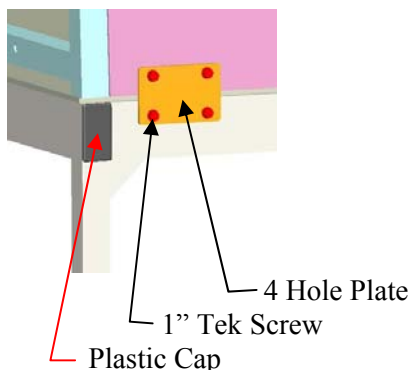
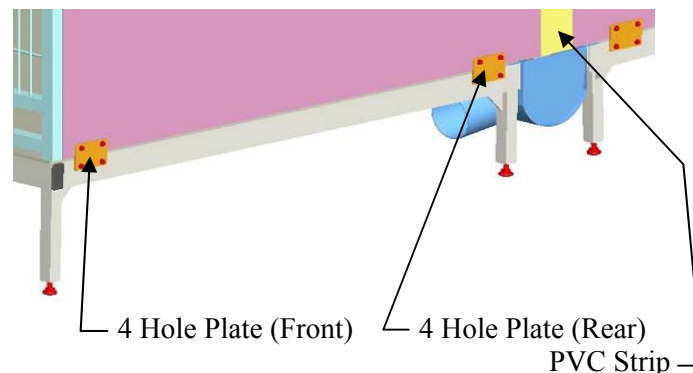

Figure 29
Figure 30
2. Attach a 4 hole Plate over the side of the Floor and the Side Panel on the front side of the kennel with (4) 1" Tek Screws as shown in **(Figure 29)**. Then attach the next 4 hole Plate on the rear side of the kennel with (4) 1" Tek Screws as shown in **(Figure 30)**. Use the same instructions for the second section of the kennels, using the same instructions on the other side of the kennel system.
3. Plug open ends of tubing with Plastic Cap on each end of the kennel system as shown in **(Figure 29)**.